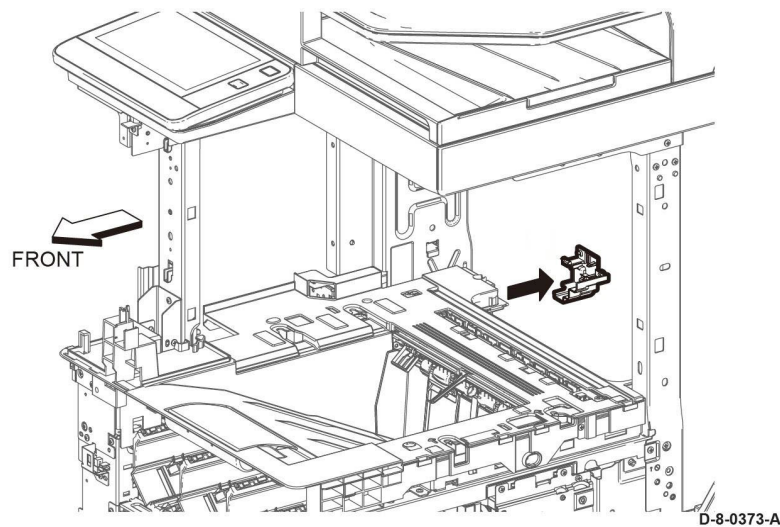

Figure 1 OPT blind cover removal
3. Remove the OPT blind cover, Figure 1.